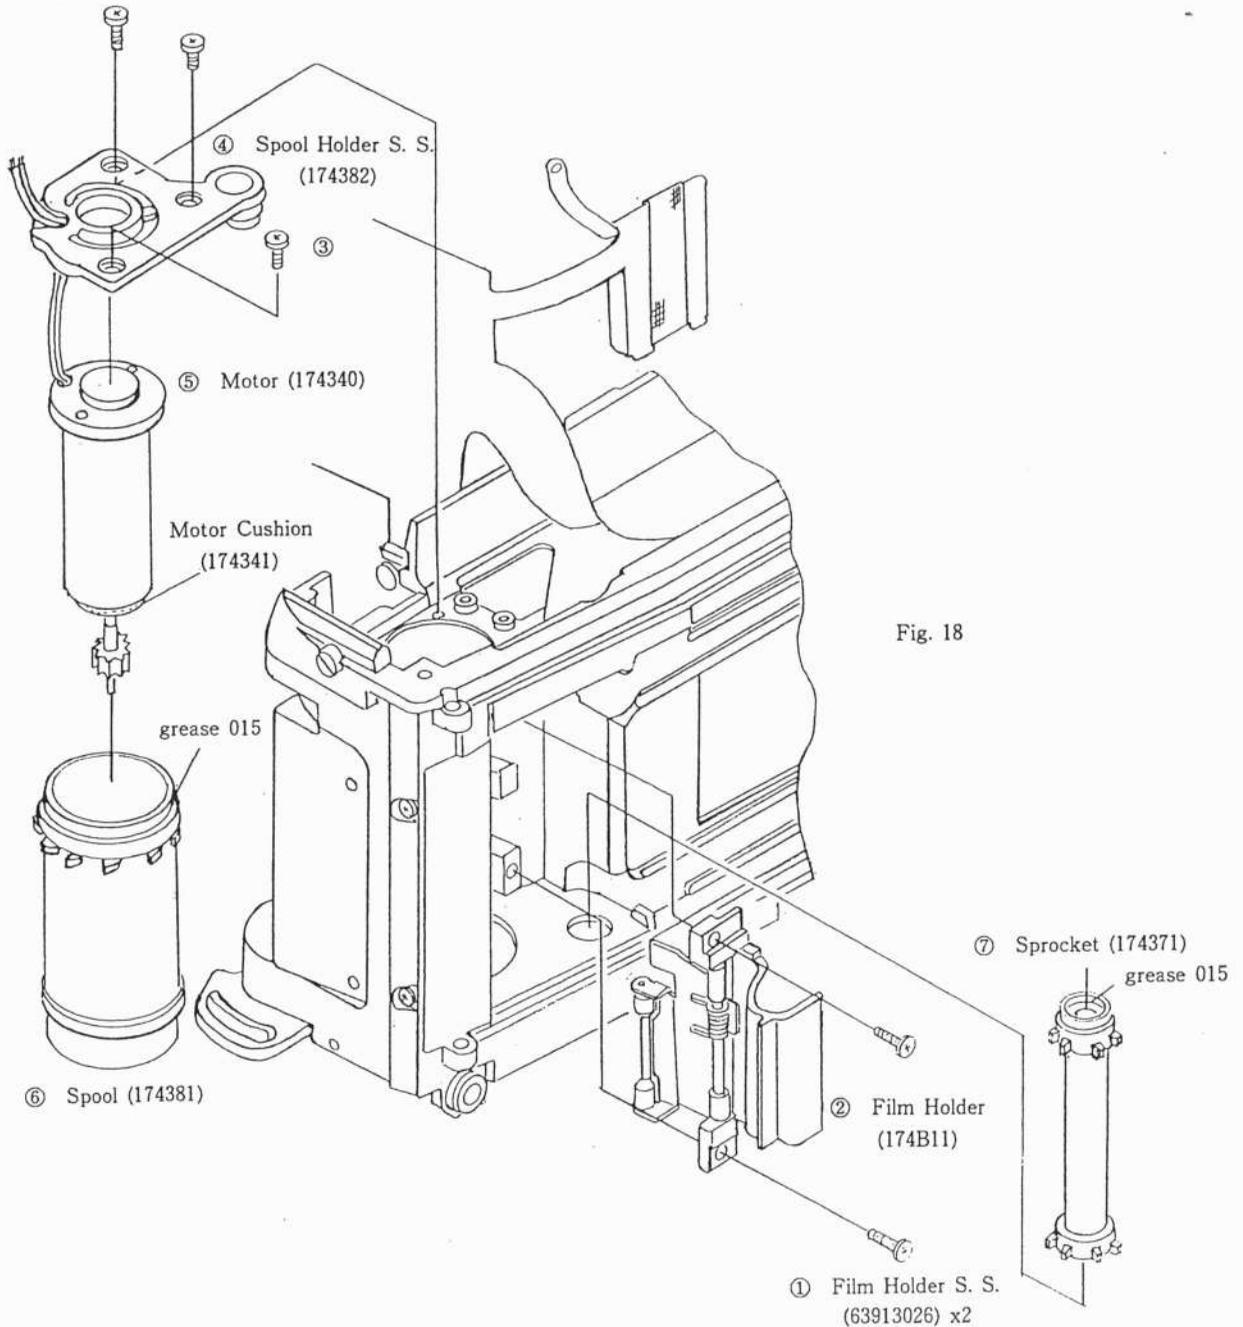

Fig. 18
1) Remove the respective parts ①~⑦ shown in (Fig 18) in numerical order.